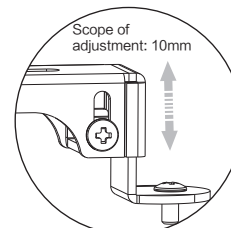

figure 19
4. Rotate the adjustable screw (4-4) for adjusting the height of instllation arms (4-2) if the installation holes are not at the same level as figure 19.